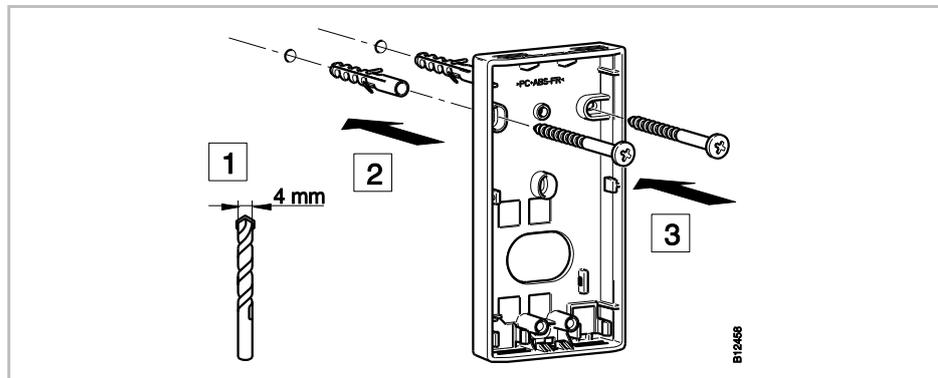

Fig. 13: Mount lower part of the wireless room thermostat
- ▶ Mount the bottom part of the wireless room thermostat. → See page 32, Fig. 13.